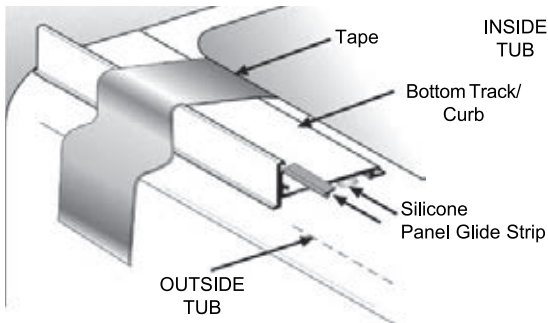

Figure 1
- B. Center the Bottom Track/Curb (#2) on the sill/dam. In some installations, you may prefer to position the Bottom Track/Curb (#2) forward or back of center. For example, by moving the Bottom Track/Curb (#2) forward, you will slightly increase the depth within the shower area (See Figure 1).